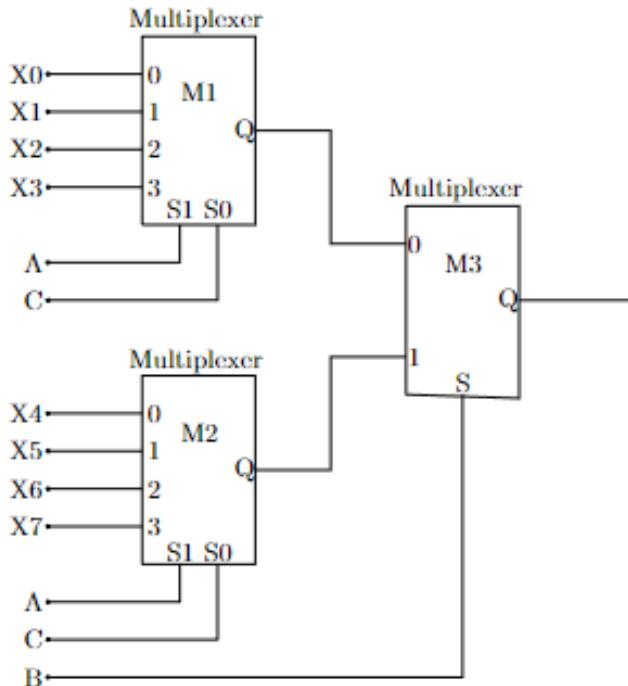

Fig. 3.14: Digital Circuit
26. A Boolean digital circuit is composed using two 4-input multiplexers $M1$ and $M2$ and one 2-input multiplexer $M3$ as shown in the Fig. 3.14. $X0-X7$ are the inputs of the multiplexers $M1$ and $M2$ and could be connected to either 0 or 1. The select lines of the multiplexers are connected to Boolean variables A, B and C as shown. Which one of the following set of values of $(X0, X1, X2, X3, X4, X5, X6, X7)$ will realise the Boolean function $\overline{A} + \overline{AC} + A\overline{BC}$?